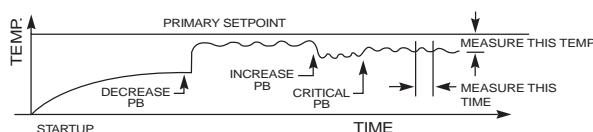

Figure 2. Oscillation Time
- Measure the oscillation time, in minutes, between neighboring peaks or valleys (see Figure 2). This is most easily accomplished with a chart recorder, but a measurement can be read at one minute intervals to obtain the timing.